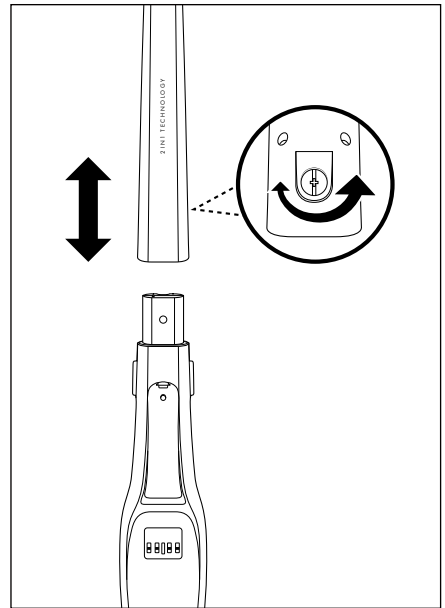

Fig. 1
- 2) Attach the handle rod 10 to the handle rod bracket of the appliance. Push the handle rod 10 all the way onto the handle rod bracket until it is firmly seated on the appliance. (Fig. 1).
- 3) Insert the screw 11 into the screw hole at the back of the handle rod 10. Tighten the screw 11 clockwise with a screwdriver (Fig. 1).